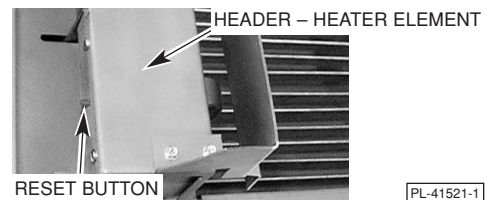

Fig. 2
- HIGH LIMIT 2 Light — If lit, the HIGH LIMIT 2 sensor has shut down the fryer. Reset is required. To reset, push the Reset Button at rear of heater element header (Fig. 2).